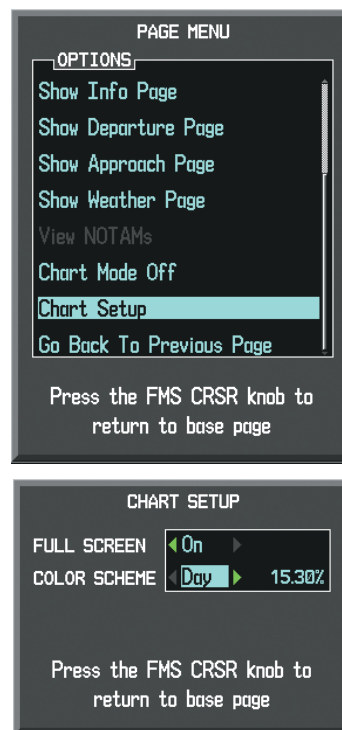

Figure 11-22 Selecting Day, Night, or Automatic View
- 1) While viewing a terminal chart press the **MENU** Key to display the Page Menu **OPTIONS** (see Figure 11-22).
- 3) Turn the large **FMS** Knob to move to the **COLOR SCHEME** Option (see Figure 11-22).